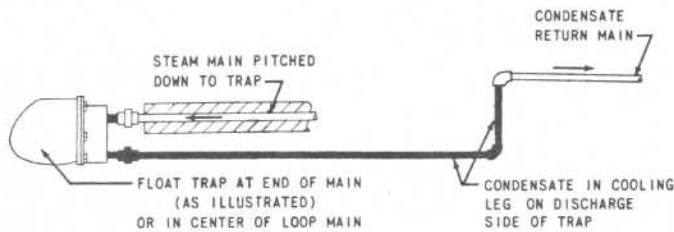

Figure 29 - Cooling Leg at Steam Trap
- b. COOLING LEG - In order to reduce the temperature of the condensate being discharged from a trap and also to prevent any flash steam (the condensate passing through a trap is at steam temperature and pressure when it passes into the return main which is under no pressure, a portion will boil and make steam) from escaping into the return line a cooling leg should be used. (See Figure 29)